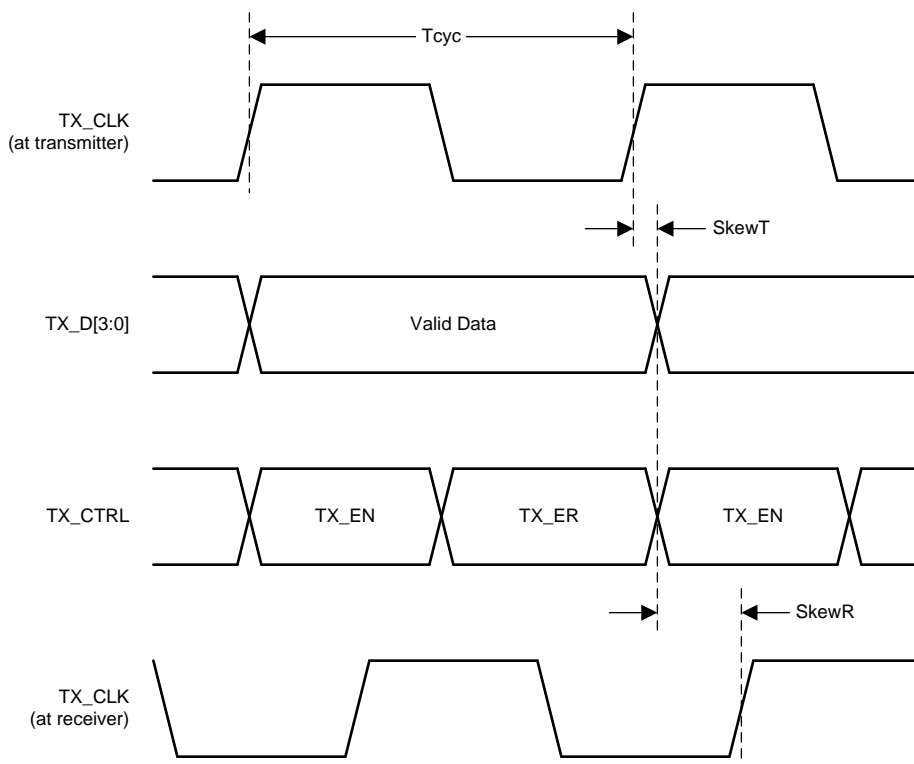
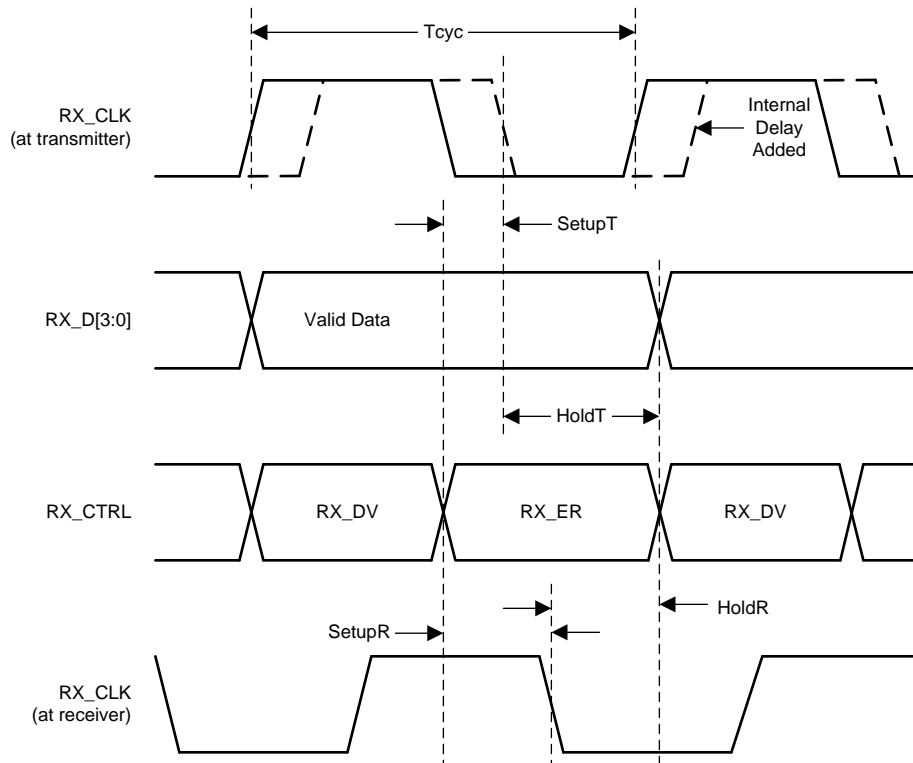

图 10. RGMII Transmit Timing
图 11. RGMII Receive Timing
(1) Ensured by production test, characterization or design.
(2) See 图 10 and 图 11.
(3) When operating without RGMII internal delay, the PCB design requires clocks to be routed such that an additional trace delay of greater than 1.5 ns is added to the associated clock signal.
(4) Device may operate with or without internal delay.
(5) The duty cycle may be stretched or shrunk during speed changes or while transitioning to a received packet's clock domain as long as minimum duty cycle is not violated and stretching occurs for no more than three Tcyc of the lowest speed transitioned between.